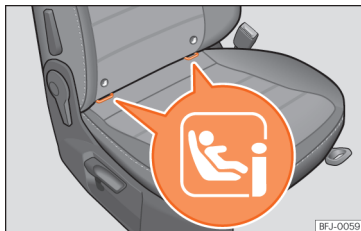

Fig. 27 Front passenger seat: ISOFIX securing rings.
the rings are secured to the seat frame. The “ISOFIX” rings are located between the backrest and the seat cushioning of the rear seat »» Fig. 26 and of the front passenger seat »» Fig. 27.
- Press the child seat onto the "ISOFIX" retaining rings »» Fig. 26 and »» Fig. 27 until the child seat is heard to engage securely. If the child seat is equipped with Top Tether anchor points, secure it to the correspondent ring »» page 39. Follow the child seat manufacturer's instructions.